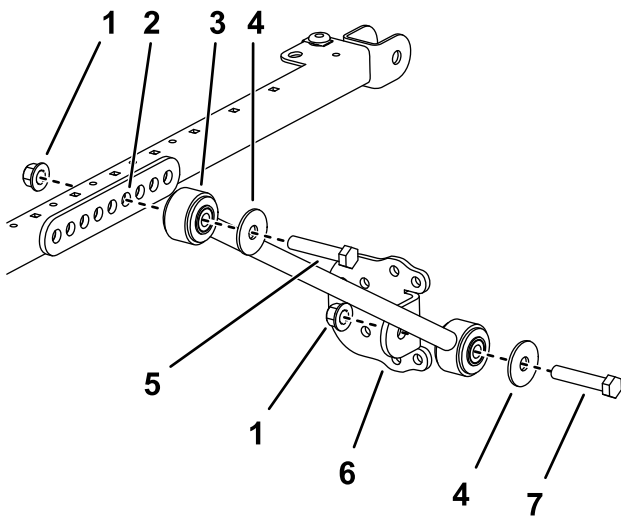

Figure 18
- On each side of the sunshade frame, loosely mount an extension link to the fourth hole of the brace mount with 2 bolts (1/2 x 2-3/4 inches), and 2 flange nuts (1/2 inch) as shown in Figure 18.
11. Loosely install a brace bracket to each brace with a bolt (1/2 x 2-1/2 inches), washer (1/2 inch), and flange nut (1/2 inch) as shown in Figure 18.